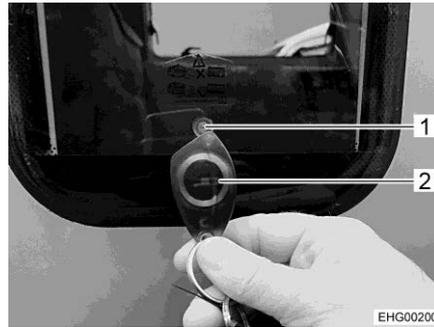

Fig. 47 RFID chip
- From outside, hold the RFID chip (Fig. 47,2) close to the sensor (Fig. 47,1) in the lower area of the window.
- ▷ If the conversion door is locked or unlocked via the RFID chip, a LED on the sensor (Fig. 47,1) lights up briefly.